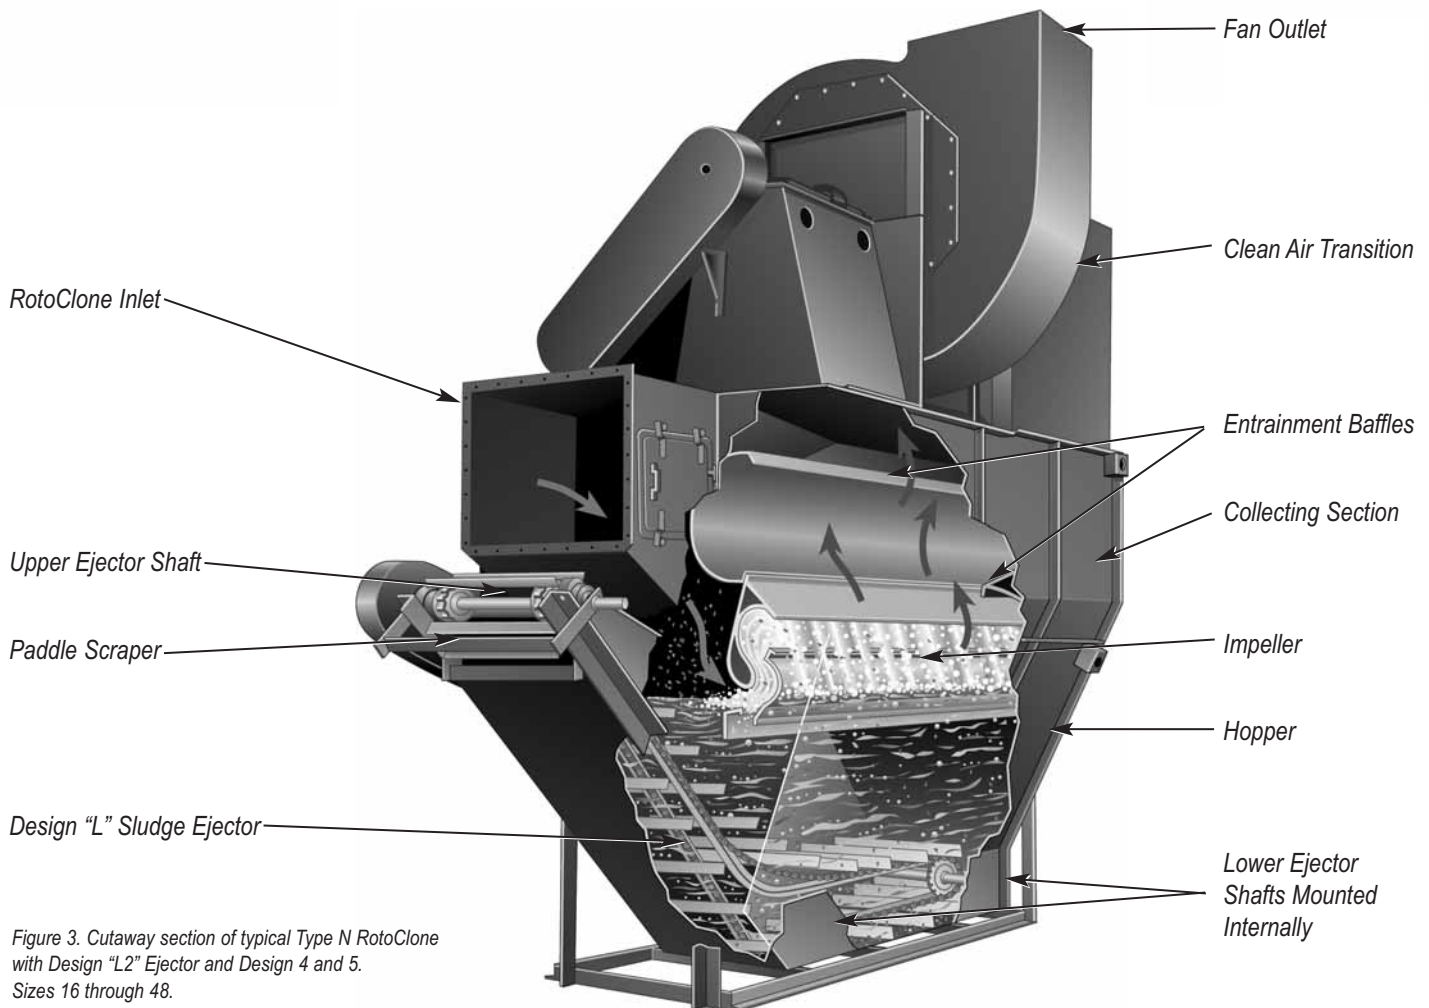

Figure 3. Cutaway section of typical Type N RotoClone with Design "L2" Ejector and Design 4 and 5. Sizes 16 through 48.
- For Sizes 1½ thru 6, chevron mist eliminator bundles are shipped loose for installation at the jobsite. Refer to drawing 1400415 for Installation Instructions. For Sizes 8 thru 48, the entrainment baffles are fixed in place as an integral part of the unit and it is not necessary to make any adjustments (Figure 3).